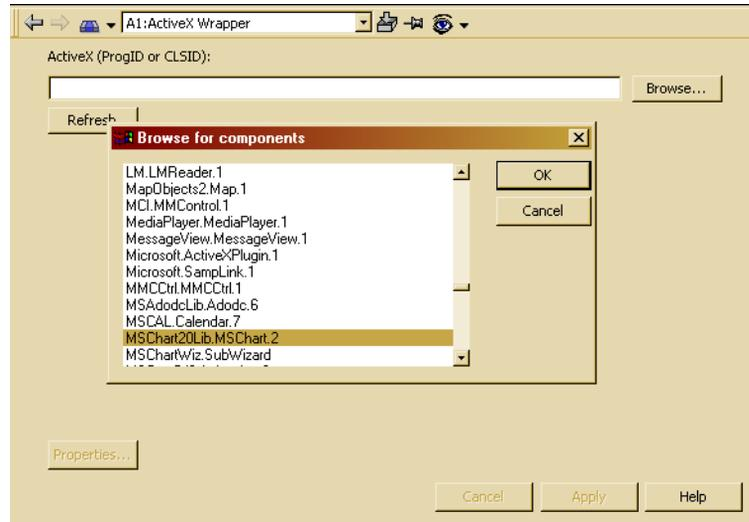

Figure 298. Browse for Components Dialog
3. Enter in the ProgID to the ActiveX Control in the **input** field, or use the Browser, as in Figure 298 (the dialog box opens).